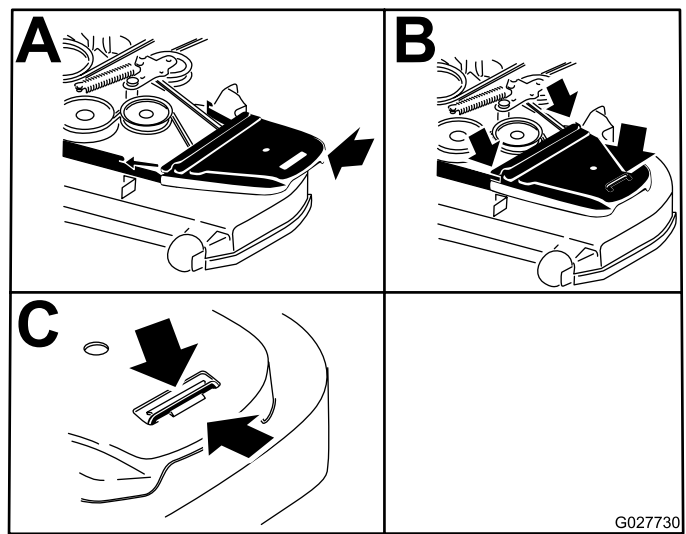

Figure 84
13. Install the belt covers (Figure 84).